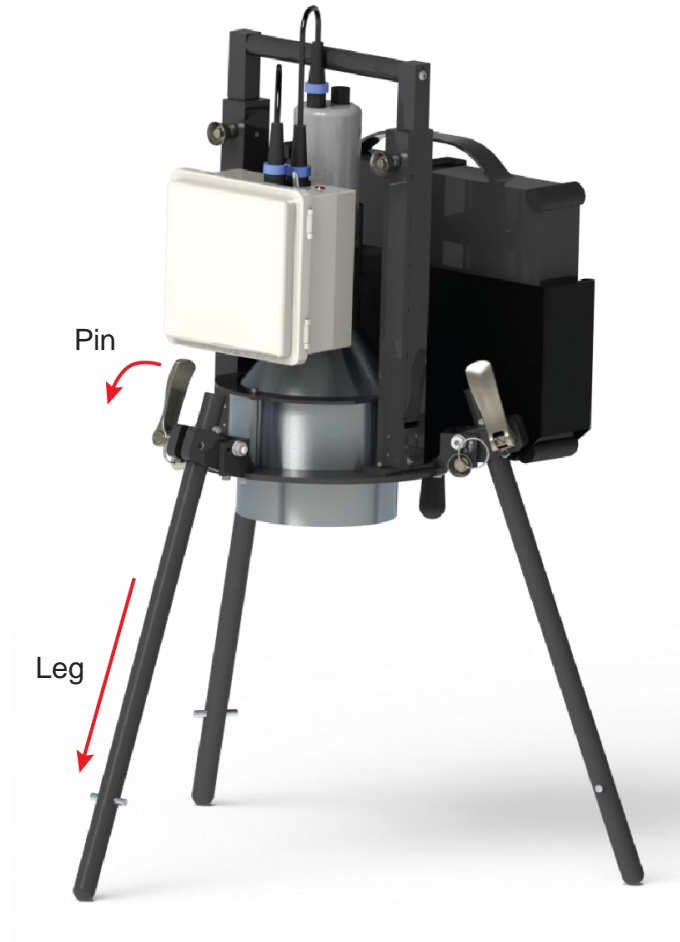

Figure 4. Extending the legs.
3. Loosen the leg locks (Figure 4) and extend the legs down. Swing the legs out by pulling the pin, swinging the leg, and inserting into the second hole. Lock the legs in place. Consider tying rubber gloves onto each leg to prevent contamination.